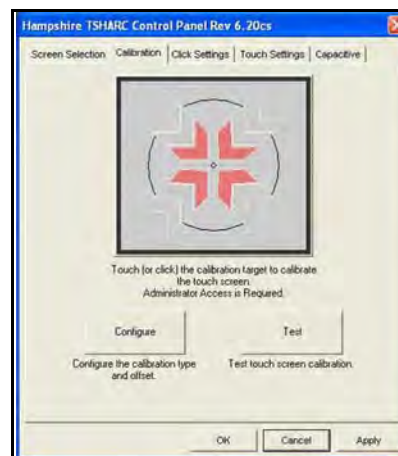

Figure 13-1 Sample Hampshire TSHARC Control Panel window
1. From the Windows toolbar select **Start > All Programs > Hampshire TSHARC Control Panel** to open the touch screen dialog box (Figure 13-1).